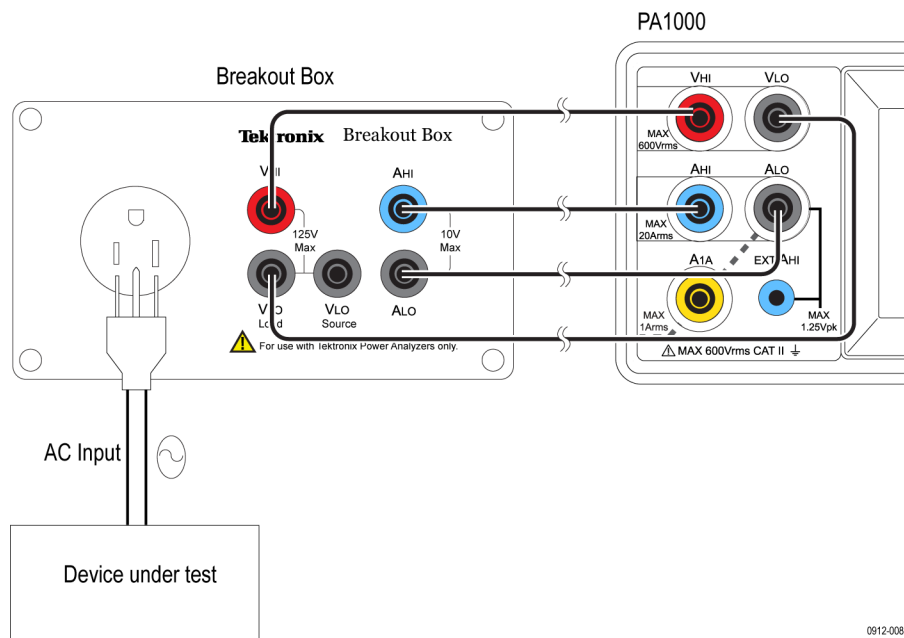

Figure 7: Typical breakout box connections
1. Using the test leads provided with the PA1000, make the voltage and current connections between the breakout box and the input jacks on the PA1000. (See Figure 7.)